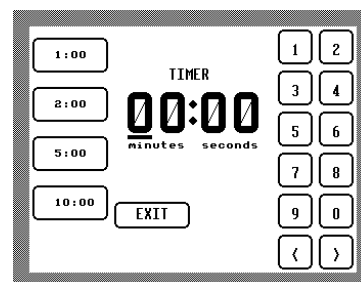

Fig 9 –
- Touch **Timer** to view the timer programming screen (Fig 9).